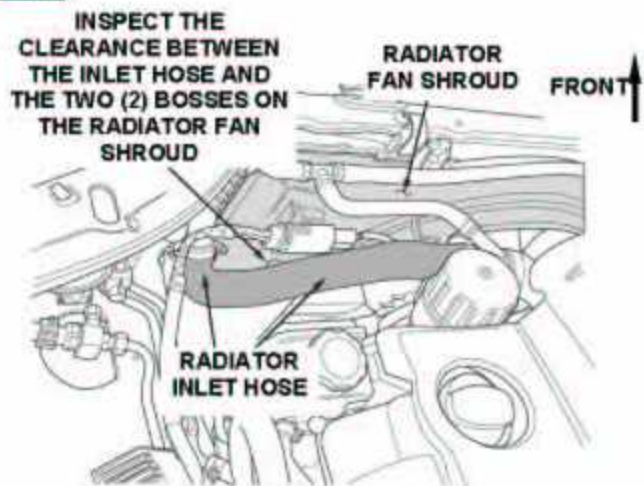

Figure 1
3. Inspect the radiator inlet hose position (Figure 1):